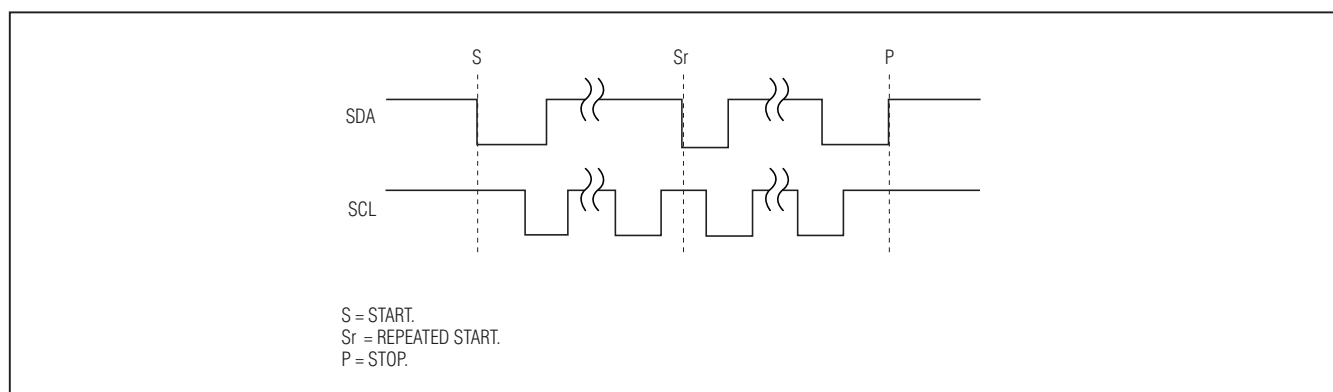

Figure 11. START and STOP Conditions
The master initiates a transmission with a START condition (S), a high-to-low transition on SDA while SCL is high. The master terminates a transmission with a STOP condition (P), a low-to-high transition on SDA while SCL is high (Figure 11). A repeated START condition (Sr) can be used in place of a STOP condition to leave the bus active and the interface mode unchanged (see the *High-Speed Mode* section).